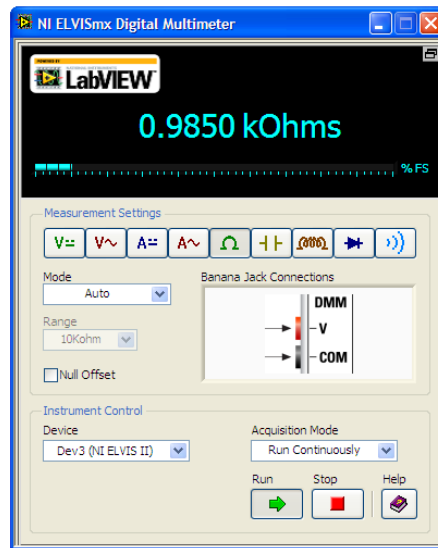

Fig. 9. Digital Multimeter SFP indicating the resistor's value
10. Click the Ohm button to use the Digital Voltmeter function (DMM-Ohm) to measure the value of the resistor. If the Function Generator is in manual mode, the resistance and capacitance buttons are disabled. In order to control these buttons using the SFP, ensure that the manual mode is turned off on the workstation. Once the measurement is successful the output should appear as shown in Fig. 9. You have now successfully used the resistor ohm-meter with the NI Elvis SFP.